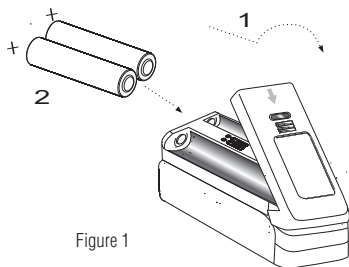

Figure 1
3. Replace the battery cover by reversing step 1. (Figure 1)